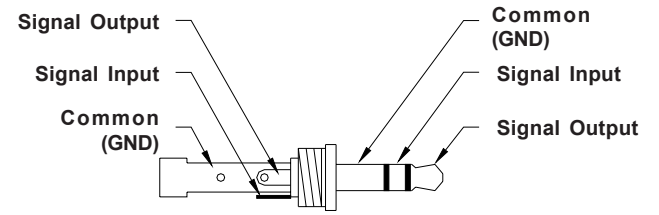

Figure 4 Input/Output Connector Detail
**PALM STROBE x** has an input / output jack on the side of the stroboscope. This jack accepts a 1/8 inch (3.5 mm) stereo phone plug and can be used for external triggering or synchronization of the stroboscope or for providing a pulse output, synchronous with the flash. The jack's outer connection (barrel) is common, the inner or center connection is the signal, and the tip is the pulse output (see Figure 4). The input and output are TTL compatible.